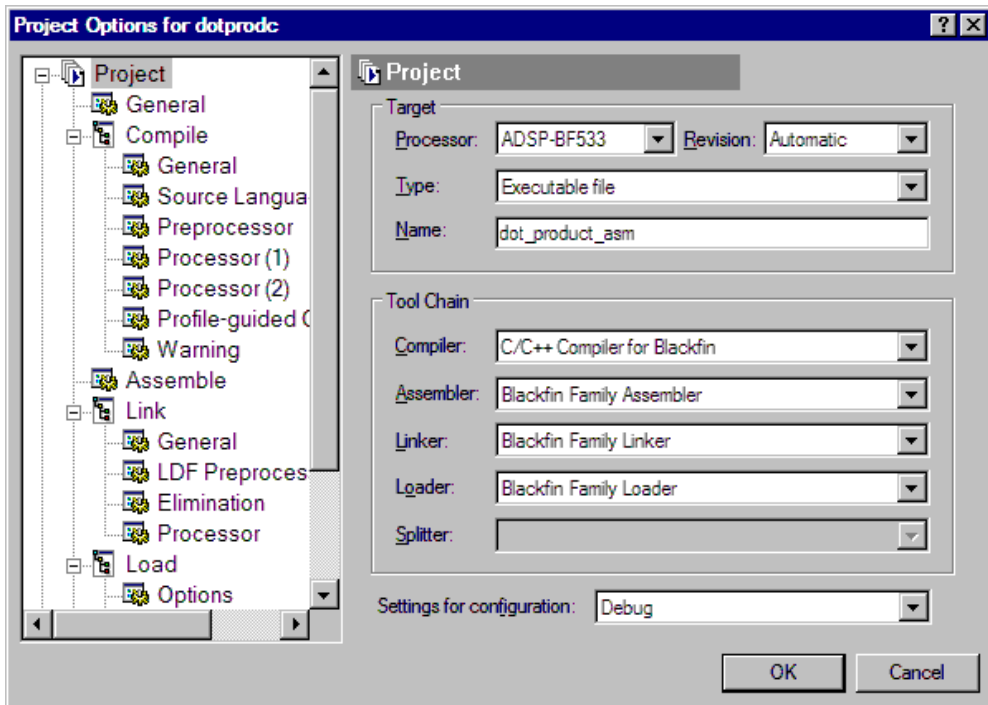

Figure 2-12. Project Options Dialog Box – Project Page
- From the **Project** menu click the **Project Options** command to display the **Project Options** dialog box (Figure 2-12).
10. On the **Project** page (Figure 2-12), verify that the values shown in Table 2-1 are entered here.